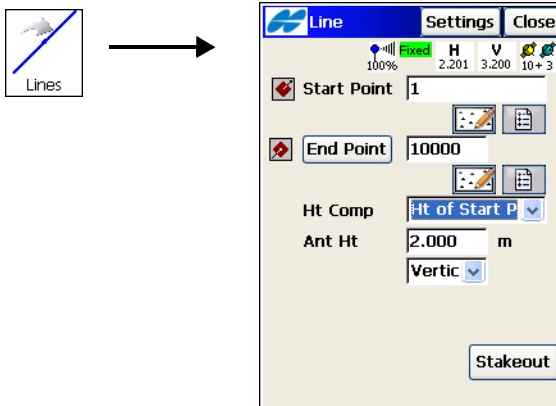

Figure 13-15. Stakeout Line
To stakeout a line, select the **Lines** icon. The **Line** screen (Figure 13-15) contains the initial data for the line stakeout.
- **Close** – returns to the *Line* screen (Figure 13-15 on page 13-14).